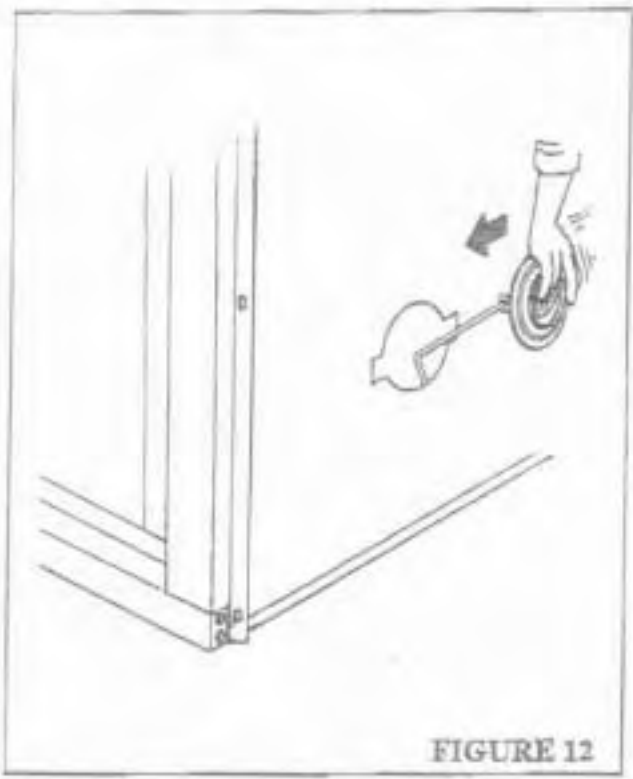

FIGURE 12
STEP 2: Remove the air inlet cover from the right hand side of the case (Figure 12). Discard the cover. On some models, the cover may be of the "knock-out" type.
STEP 5: Insert the handle into the case as shown in Figure 12. Move the air gate assembly forward into position. Make sure the handle extends through the vertical slot in the front frame side (See Figure 46, Page 19).